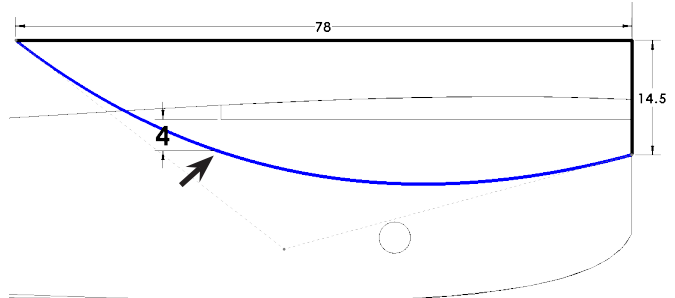

Fig. 36
Step 12. Click **Smart Dimension** (S) on the Sketch toolbar.
Step 13. **Dimension 4** between 2nd spline point and bottom of the cartridge hole as shown in **Fig. 36**. To Smart dimension click the spline point and the cartridge corner, then move the cursor up off the sketch and click. Key-in **4** for the dimension and press ENTER.